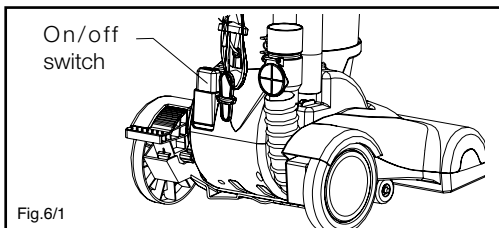

Fig.6/1
1. Turn the vacuum cleaner on by pressing the on/off switch located on the lower right side of the cleaner (Fig.6/1). The cleaner can be turned off by pressing the on/off switch again.